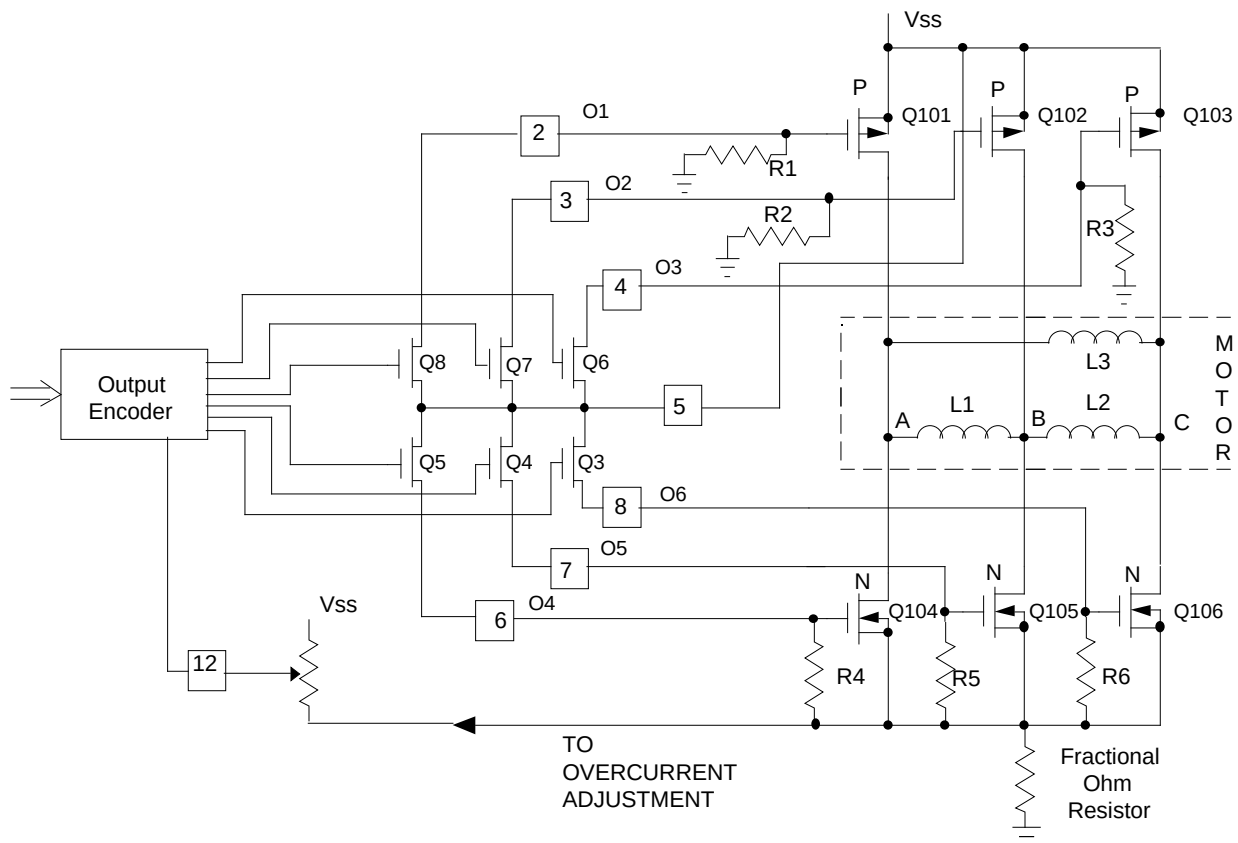

FIGURE 1. LS7260 THREE PHASE OUTPUT DRIVER CIRCUITRY
A positive braking feature is provided to effect rapid deceleration. While the LS7262 is designed for driving NPN and PNP transistors (See Fig. 2), the LS7260 is designed to drive both NMOS and PMOS Power FETs and develops a full 12V drive for both the N-Channel and P-Channel devices (See Fig. 1) when using a 12V power supply.
For the LS7262, a high level at this input unconditionally turns OFF Outputs 1, 2 and 3 and turns ON Outputs 4, 5 and 6 (See Fig. 2). For the LS7260, a high level at this input turns ON Outputs 1, 2 and 3 and Outputs 4, 5 and 6 (See Fig. 1). In both cases, transistors Q101, Q102 and Q103 cut off and transistors Q104, Q105 and Q106 turn on, shorting the windings together. The BRAKE has priority over all other inputs.
The oscillator is used for motor speed control as explained under VTRIP. Both upper and lower motor drive transistors are pulse width modulated (See Fig. 1 or 2) during speed control. For the LS7262, the outputs turn on in pairs (See Table 3). For example (See dotted line, Fig. 2): Q8 and Q4 are on, thus enabling a path from the positive supply through the emitter-base junction of Q101, Q8, Q4, R5, the base emitter junction of Q105 and the fractional-ohm resistor to ground. The current in the above described path is determined by the power supply voltage, the voltage drops across the base-emitter junctions of Q101 and Q105 (1.4V for single transistor or 2.8V for Darlington pairs), the impedance of Q8 and Q4 and the value of R5. Table 1 provides the recommended value for R5. R4 and R6 are the same value.
For the LS7260, (See Fig. 1) the external drivers also turn on in pairs. Internal operation is somewhat different than the LS7262. For example, external transistors Q101 and Q105 will turn on when internal transistor Q8 turns off and Q4 turns on enabling full power supply drive on Q101 and Q105. Since Pin 5 is tied to Vss, the gate of P-channel Driver Q101 is brought to ground by R1 and the Gate of N-Channel driver Q105 is brought to Vss by Q4. Other external output pairs turn on similarly and the commutation sequence is identical to that of the LS7262 (Table 3). Table 2 indicates the minimum value of R1 (=R2=R3=R4=R5=R6) needed as a function of output drive voltage for Fig. 1.
*See Figures 1 and 2. For the LS7260, Outputs O1,O2,O3 are the logical inversions of the corresponding Out- puts of the LS7262
*See Figures 1 and 2.